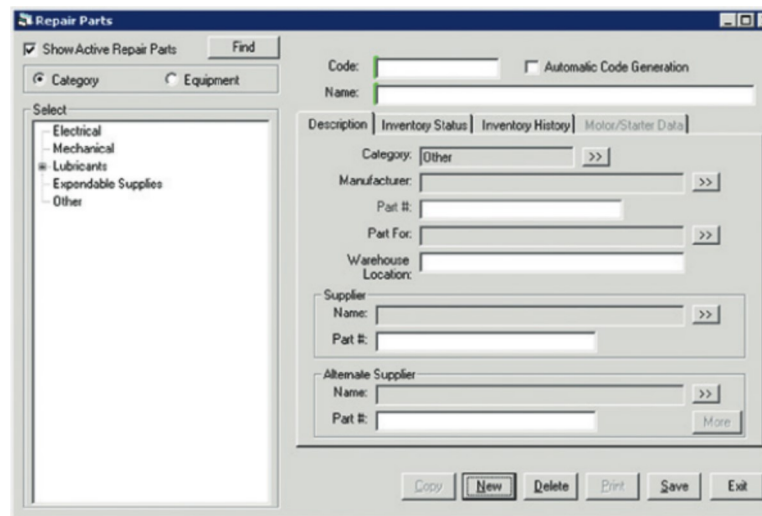

Figure 17. Repair Parts dialog blank form for new part.
2. Click either **New** or copy an existing part by selecting it in the list to the left and then clicking **Copy** (see Figure 17).